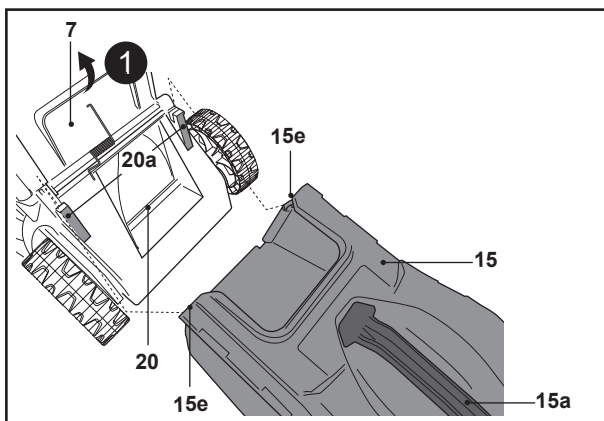

Fig 7
4. Open the rear deflector guard (7) and hold it in position (Fig. 7, step 1).
5. Carry the grass catcher (15) by its carry handle (15a).
6. Align the two catcher hooks (15e) with the slots (20a) and hang the grass catcher (15) onto it (Fig. 7, step 2).
7. Carefully release the rear deflector guard (7) afterward.